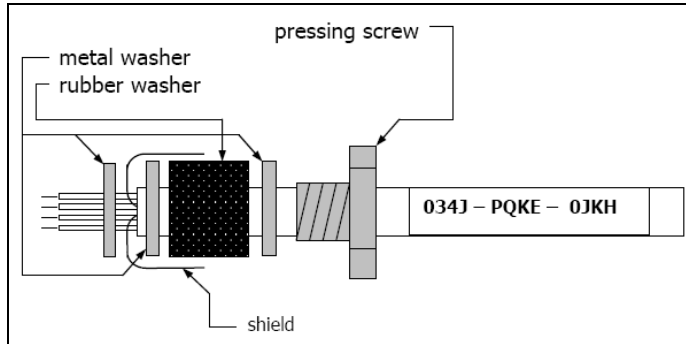

Figure 16: Cable assembling
2. Extract about 4 mm of the wire isolation and tin the wire ends. Place the pressing screw, the rubber washer and the metal washers of the cable gland one after the other onto the prepared cable end (see **Figure 16**).